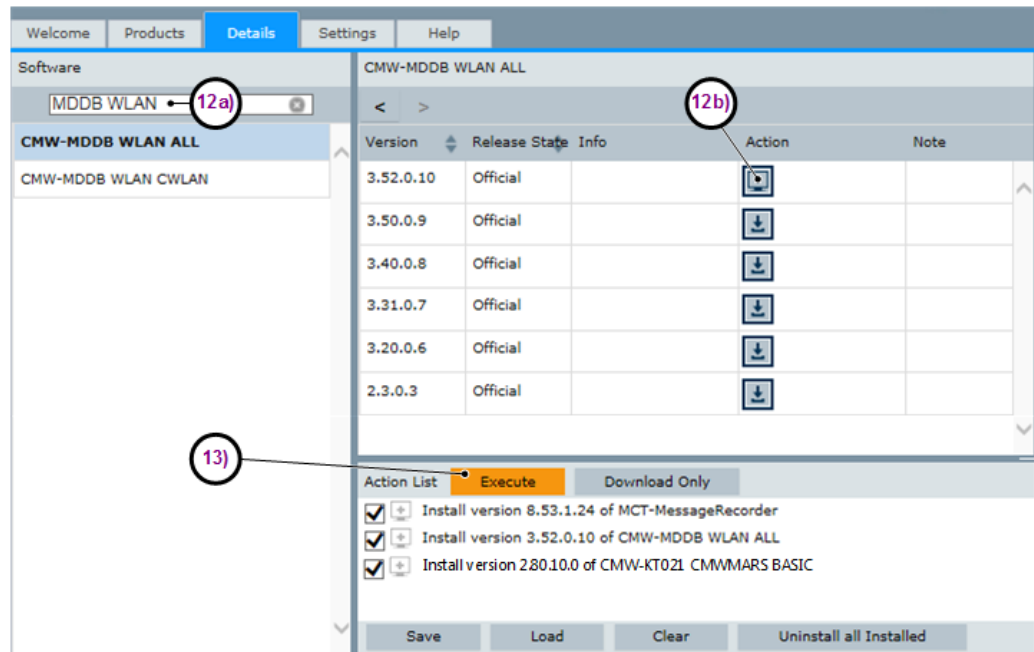

Fig. 10-5: CMW-MDDB WLAN download and installation at the Installation Manager
12. Download CMW-MDDB WLAN (Fig. 10-5):
13. Start downloading and installing all products (Fig. 10-5):